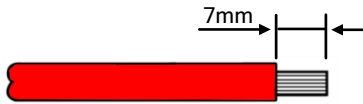
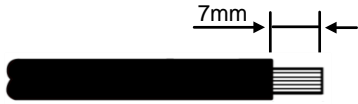

Figure4-10 Positive wire
Figure4-11 Negative wire
- Step 2 Strip the insulation layer of positive wire and negative wire for about 7mm by wire stripper, as shown in Figure4-10 and Figure4-11.